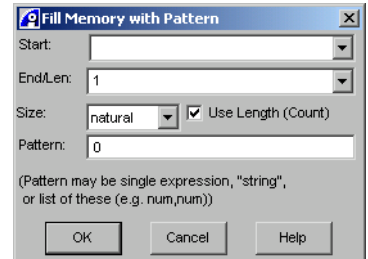

Figure 8-4 Fill Memory with Pattern dialog box
8. Select **Debug → Memory/Register Operations → Fill Memory with Pattern...** from the Code window main menu to display the Fill Memory with Pattern dialog box, shown in Figure 8-4.